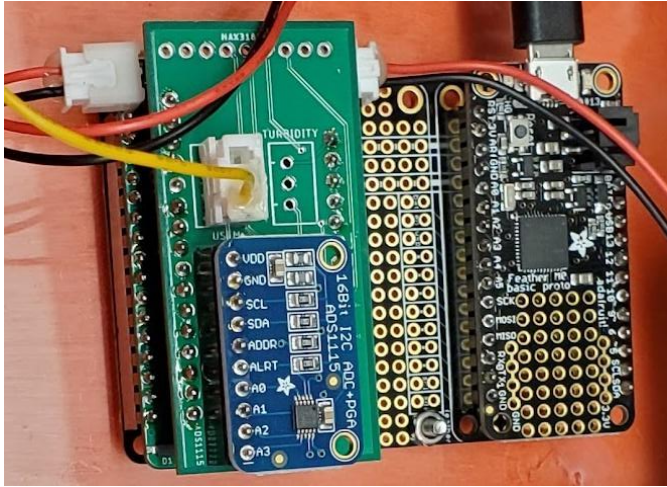

Figure 28: PCBs stacked with connections.
- b. Stack the Hypnos board on the headers on the left side of the tripler (Figure 28).
- c. Stack the custom breakout board on top of the Hypnos board (Figure 28).
- d. Stack the ADS1115 board on top of the custom breakout board (Figure 28).
- e. Stack the Feather M0 on the headers on the right side of the tripler (Figure 28).